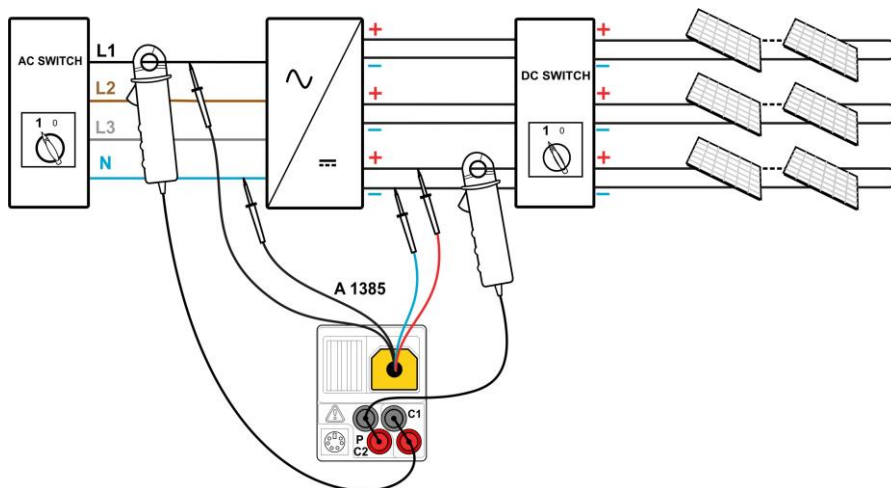

Figure 6.8: PV inverter test - AC and DC sides
- ❑ **Connect** PV test lead A 1385 and current clamps to the instrument (see figure 6.8)